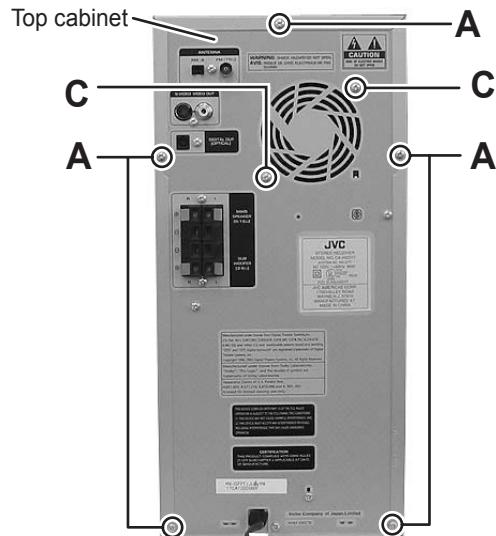

Fig.1
3.1.1 Removing the top cabinet (See Fig.1, 2)
- (1) From the back side of the main body, remove the five screws **A** attaching the top cabinet. (See Fig.1)
3.1.2 Removing the fan (See Fig.1, 3)
- (1) From the back side of the main body, remove the two screws **C** attaching the fan to the rear cabinet. (See Fig.1)